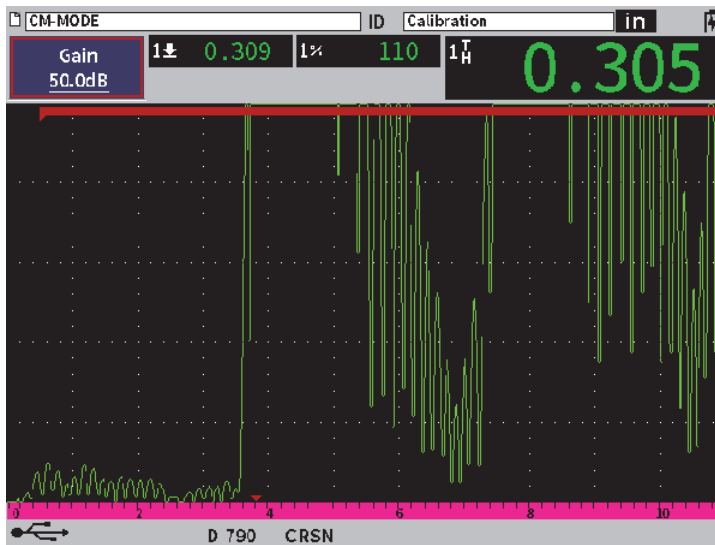

Figure 11-39 Adjust gain value in precision mode
3. Select **Gain** and turn the adjustment knob to adjust the gain value (see Figure 11-39 on page 200).